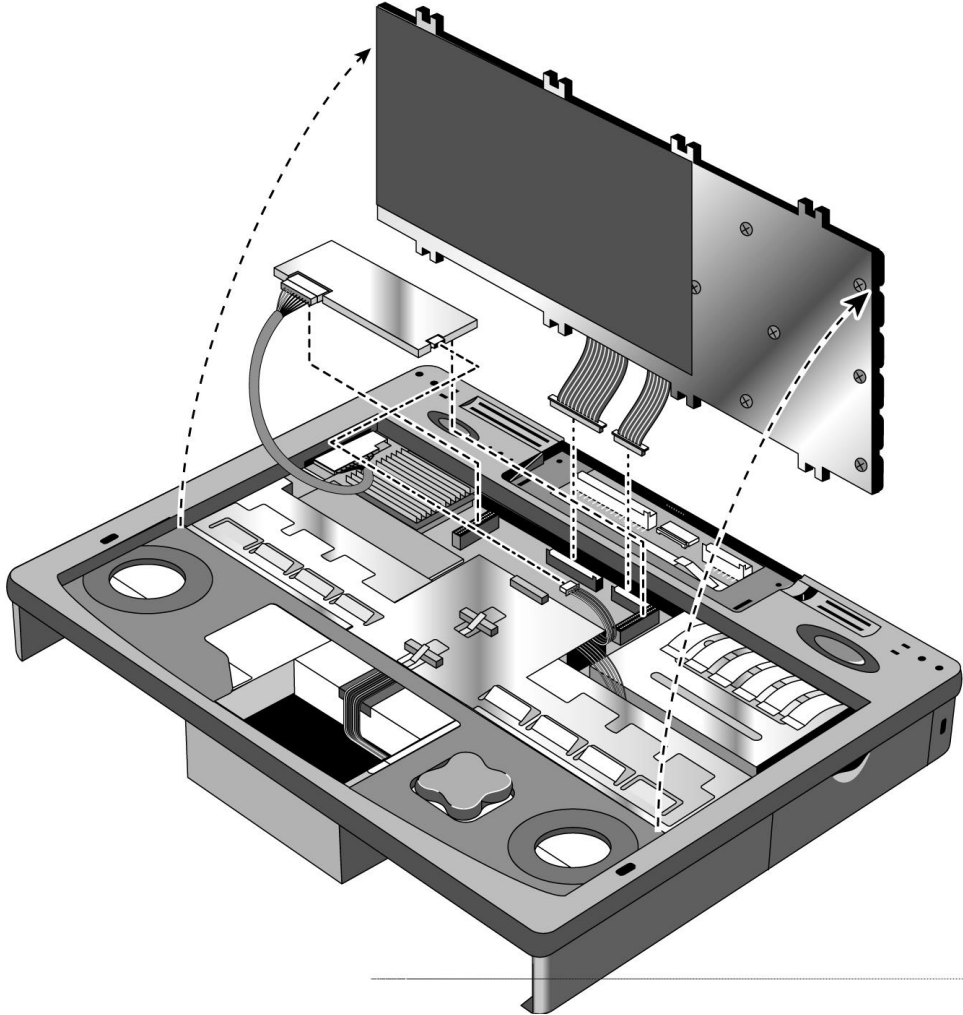

Figure 9 - Keyboard and Sound Board
4. To gain access to the Keyboard flex cables, the Sound Board must be removed (see Figure 9). To remove the Sound Board, lift up on the sides of the board. Note, the Sound Board cannot be completely disconnected at this point - the Upper Cover must be removed to gain full access to the Sound Board.
3. Follow the Keyboard Removal Procedure. Note, although the Sound Board cannot be completely removed at this point, it is strategic to disconnect the rightmost harness cable at this step (see Figure 9).